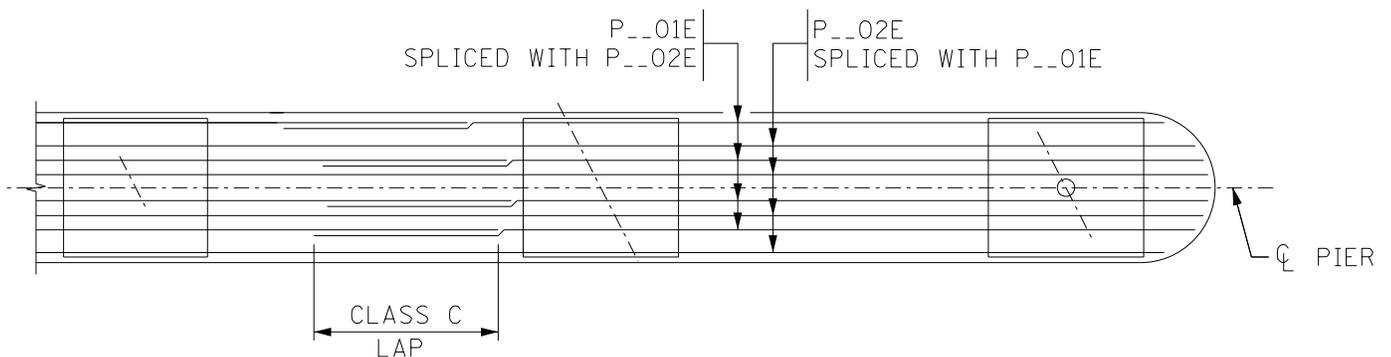

Figure 6
1. Splice all longitudinal top bars to allow for adjustment in overall length at the ends of the pier cap (especially important for pier caps that do not have square ends). (See Figure 6.)
2. All top longitudinal bars in pier cap should be the same two bar marks with alternating lap locations. The amount of lap may exceed the minimum, where the total length is shorter. (See Figure 6.)